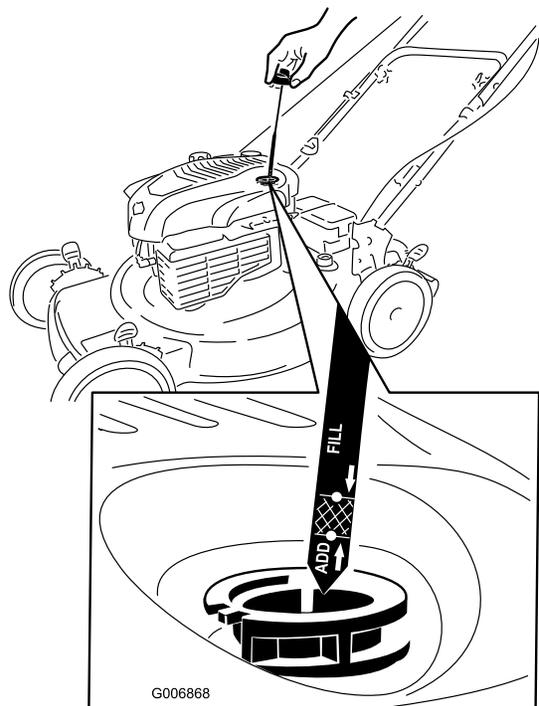

Figure 12
1. Remove the dipstick, wipe it clean, and fully install the dipstick (Figure 12).
2. Remove the dipstick and check the oil level (Figure 12). If the oil level is below the **Add** mark on the dipstick, **slowly** pour oil into the oil fill tube to raise the oil level to the **Full** mark on the dipstick. **Do not overfill.** (Max. fill: 20 oz. (0.59 l), type: SAE 30W detergent oil with an API service classification of SF, SG, SH, SJ, SL, or higher.)